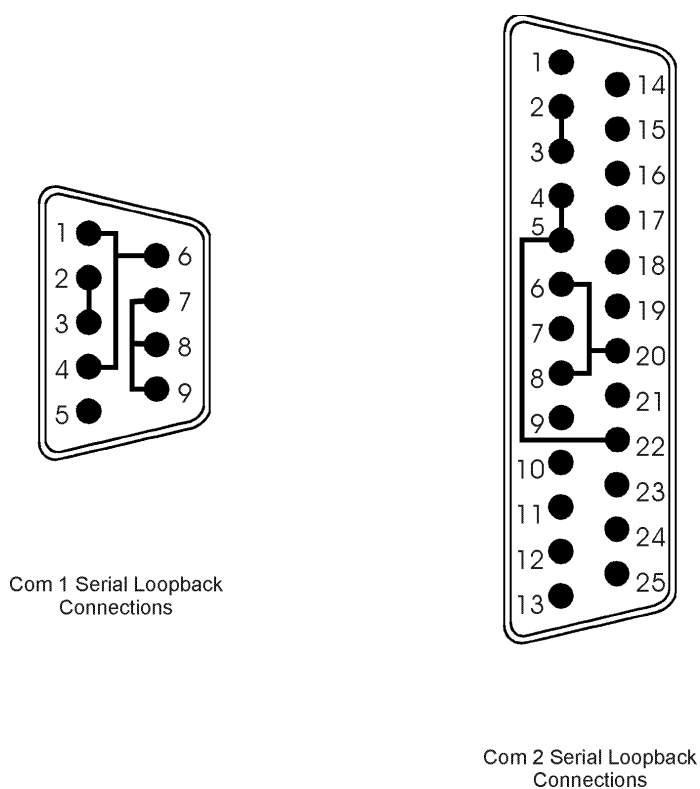

Figure 2-1. Serial Loopback Connections
3. Connect the serial loopback connector(s) and the printer cable to the appropriate connectors and connect a PC/AT or PS/2 keyboard. Figure 2-1, Serial Loopback Connections, illustrates the wiring necessary for the loopback connection.